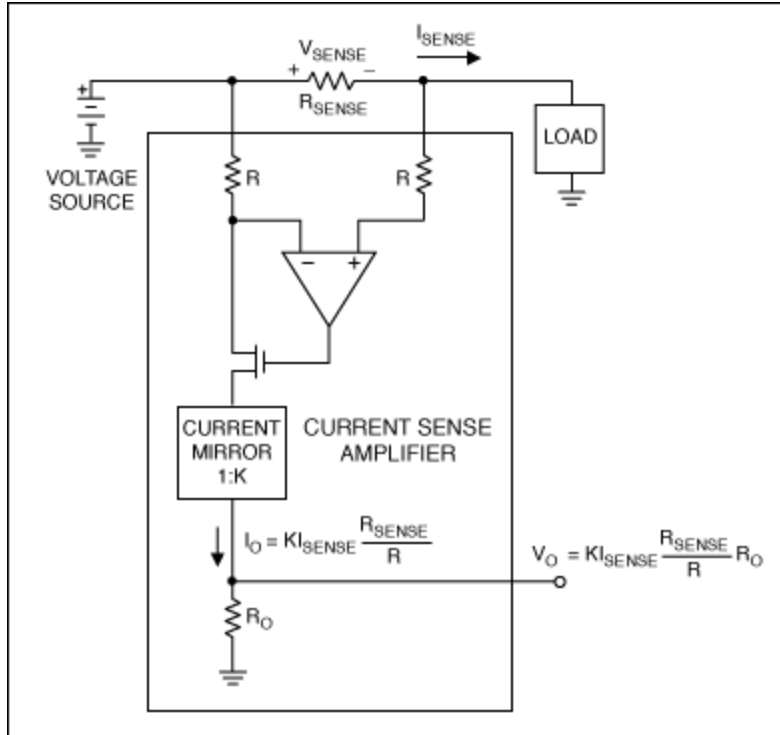
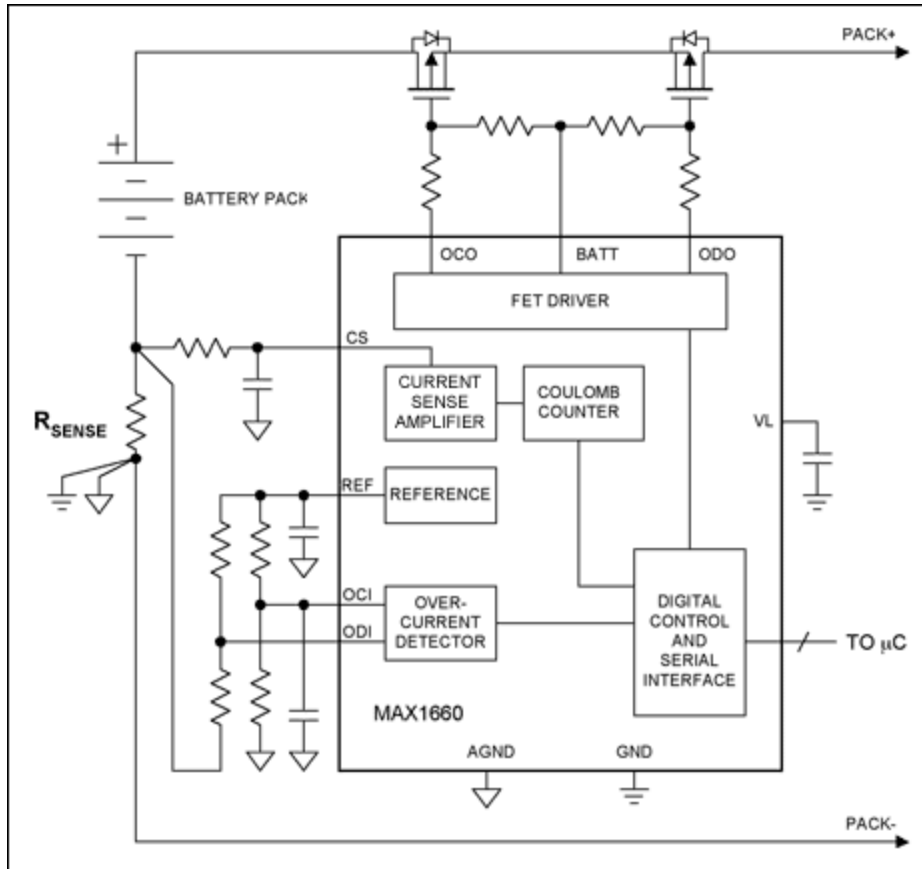
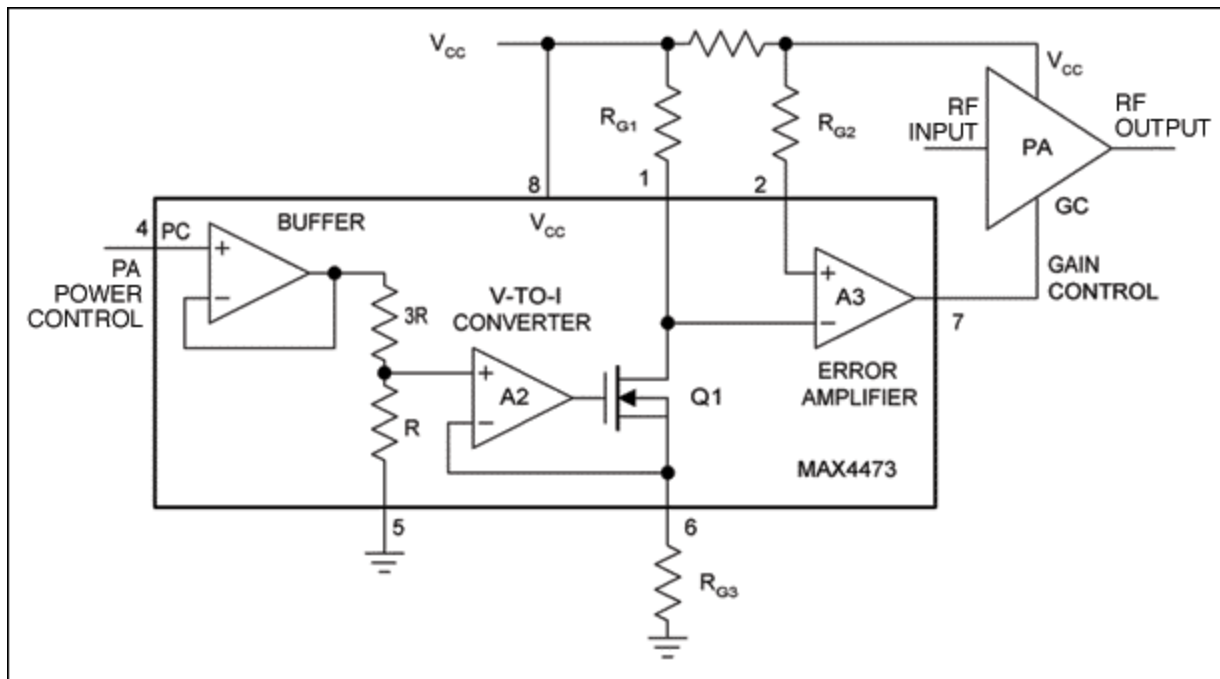

Figure 1. This high-side current sensor exploits Ohm's Law for current measurements.
Figure 4. Fuel-gauging devices like the MAX1660 track charge/discharge currents by monitoring the charges that flow in and out of the battery pack.
Figure 5. This current controller (MAX4473) dynamically adjusts the supply current to minimize power consumption while maintaining good signal integrity.
The current-sensing amplifier must have both low-input offset voltage and low input bias current. A dedicated high-side current-sense amplifier (**Figure 1**) places a current-sensing resistor between the voltage source (a battery, for instance) and the load. By avoiding extraneous resistance in the ground plane, that arrangement greatly simplifies the board layout and generally improves the overall circuit performance. Current passing through the sense resistor (R_{SENSE}) develops a voltage drop, which is sensed by the op amp and drives the MOSFET transistor to sink current through R . The voltage drop across R equals the voltage across the sensing resistor:
The current-sensing amplifier shown in Figure 1 is a relatively simple and general-purpose device. Specific applications, such as fuel gauging and battery management, however, require that additional functions and features be integrated on-chip (**Figure 4**). Fuel gauging is important for battery applications, where battery capacity is monitored precisely to optimize system performance and prolong battery life.
Though similar to the current sensor in Figure 1, a PA current controller like the **MAX4473** (Figure 5) incorporates an error amplifier and operates in a closed loop. Its operation is like a current source. The error amplifier (A3) compares and integrates any voltage difference between the IR drops across R_{SENSE} and R_{G1} , and feeds that output to the gain control (GC) input of the power amplifier. A3 increases the gain and the PA output power, and consequently the supply current, until the two IR drops are equal. The voltage-to-current converter comprising A2, Q1, and R_{G3} controls the voltage drop across R_{G1} ; users control the PA supply current externally, with the PC input: